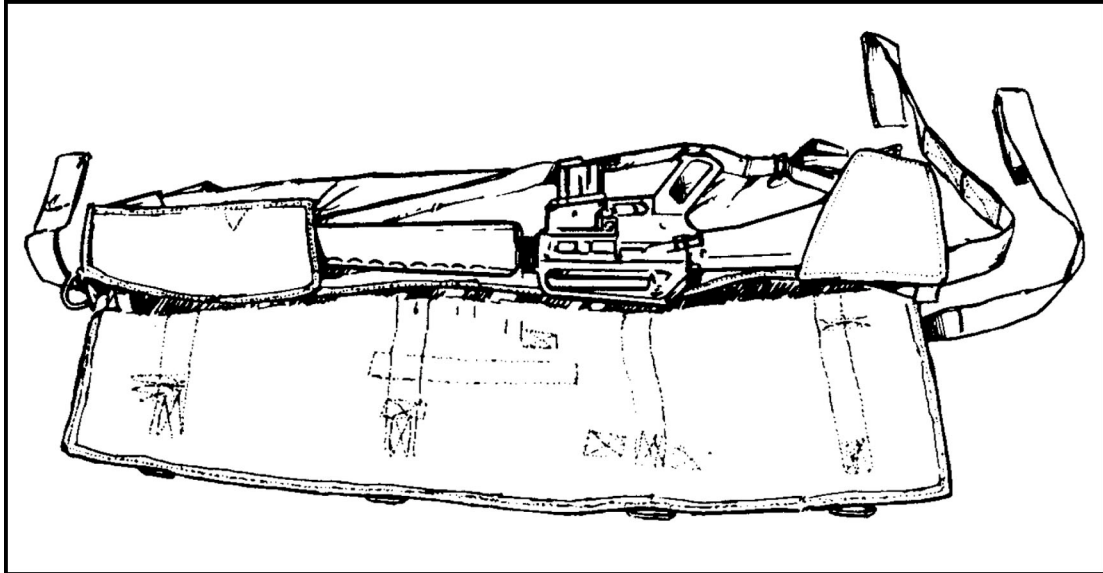

Figure 12-50. Positioning the M16/M203.
- (1) Insert a 20-round magazine into the rifle (optional).
- (2) Secure a 30-round magazine to the sling of the rifle, using adhesive tape (optional).
- (3) Insert the rifle muzzle into the muzzle stow pocket and place the butt in the rifle butt stow pocket as shown in Figure 12-50. Ensure that the magazine well and pistol grip point toward the side securing straps, and the rifle muzzle is inserted into the muzzle pocket as far as possible.